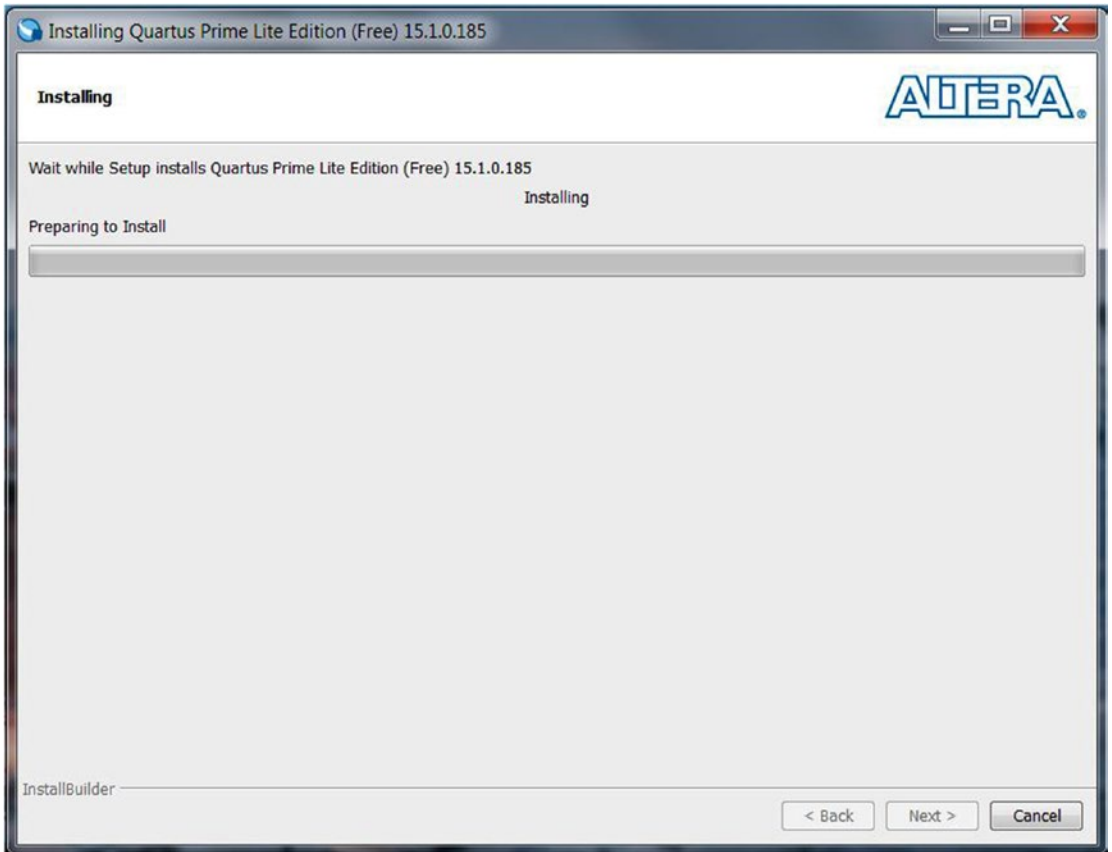
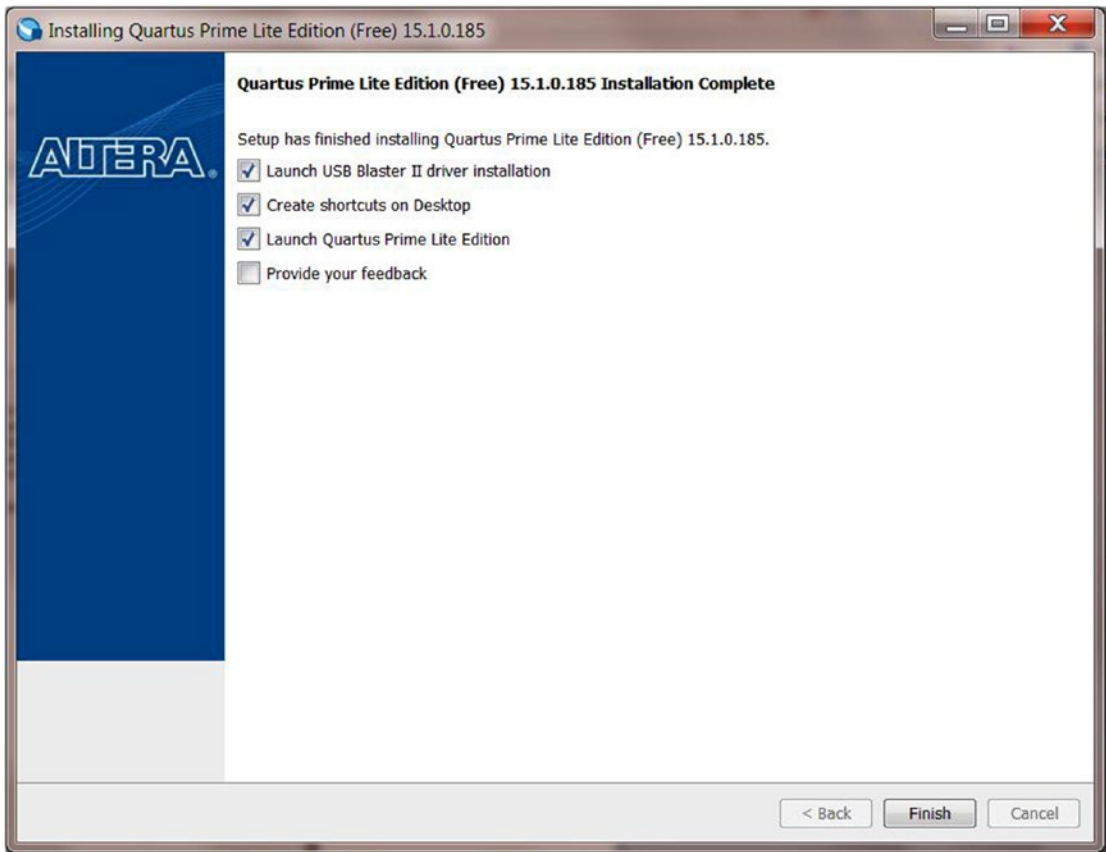

Figure 3-15. *Installing*
Figure 3-16. *Quartus Prime Lite installation complete*
6. This step just requires patience. You need to wait for your screen to change from Figure 3-15 to Figure 3-16. At the installation complete page, click **Finish** and you are only a few steps away from completing the install.